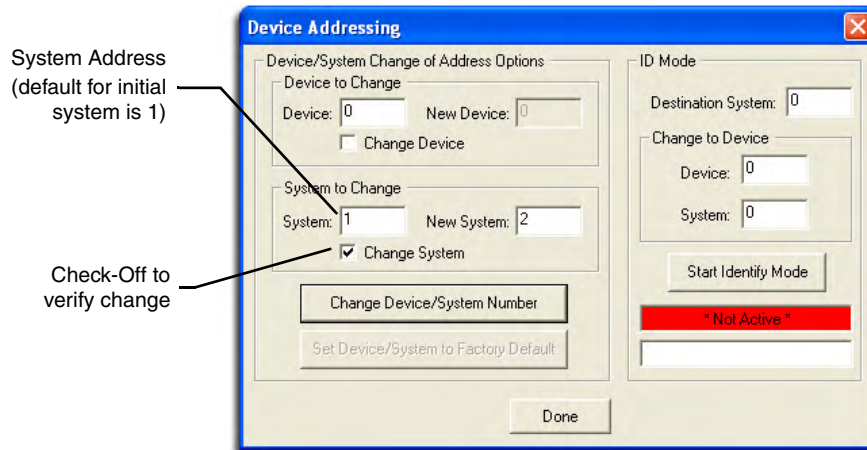

FIG. 33 Device Addressing tab (changing the system value)
1. Access/open the Device Addressing dialog (FIG. 33) by either one of these two methods: